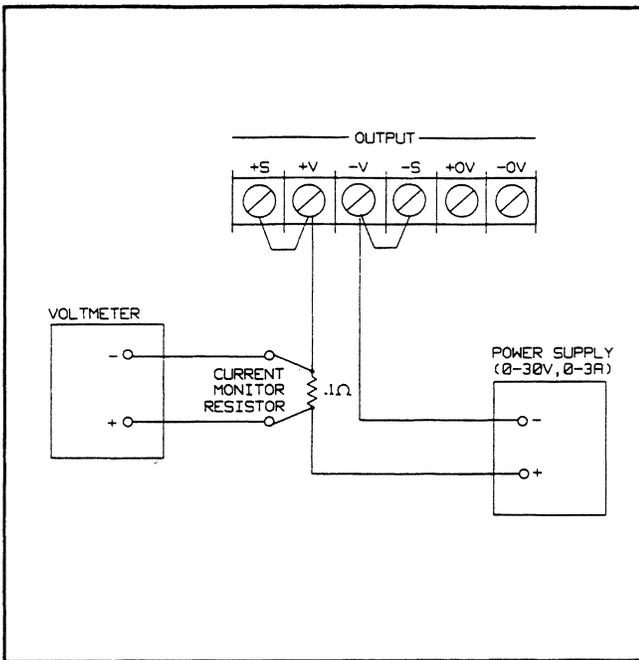

Figure 3-6. Negative Current Limit (- CC) Readback Accuracy
- a. Turn off the supply and connect the output to be tested as shown in Figure 3-6.